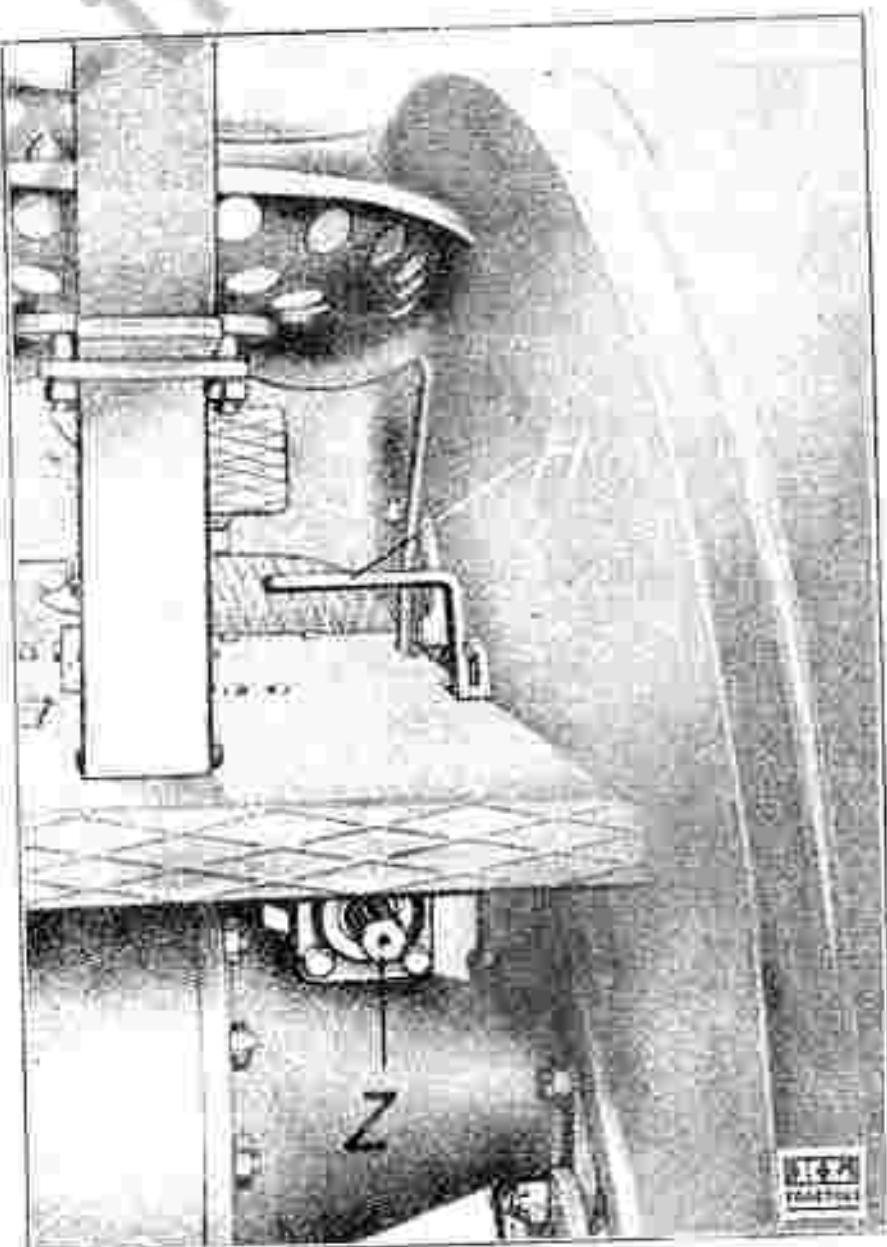

Fig. 89. Z, Rear shaft of power take-off.
The power take-off, Fig. 87, consisting of a shaft running on two pairs of tapered roller bearings and fully protected from dust and dirt, is driven from the 1st gear shaft by bevel gears (10) and (15), which are therefore always running when the engine clutch is engaged. The power take-off is engaged or disengaged by means of lever H, Fig. 89, located within easy reach of the operator. This lever should only be operated with engine clutch disengaged.